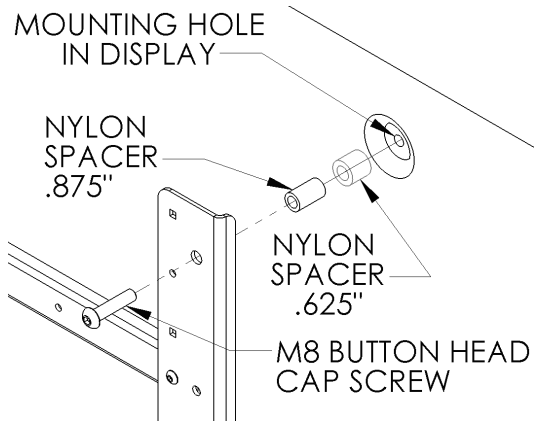
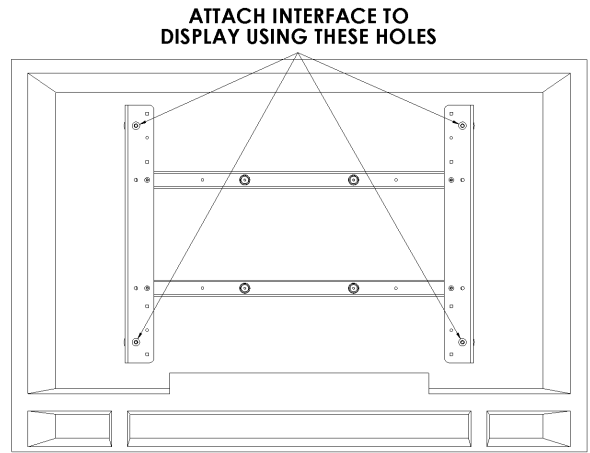

Figure 8
Figure 9
5. **Bracket Installation:** Place .875" long Nylon Spacers over mounting holes of screen and attach brackets to back of display using the M8 x 35mm screws (see Figure 8 & Figure 9). If more spacing is required stack both sets of spacer and use the M8 x 50mm screws. Do not over tighten screws.